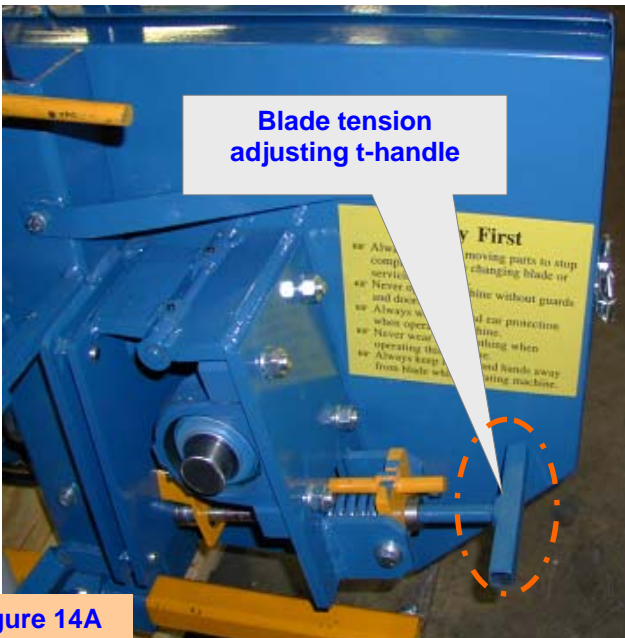

Figure 14A
- ❑ To tension the blade, turn the t-handled all-thread bolt clockwise until the factory set tension marks align (**Figure 14A, 14C**).